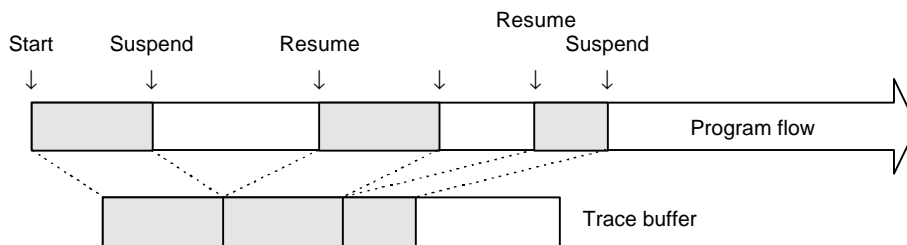

Figure 3.2-8 Controlling Trace Sampling Control (1)
**Figure 3.2-8** shows the trace sampling flow.